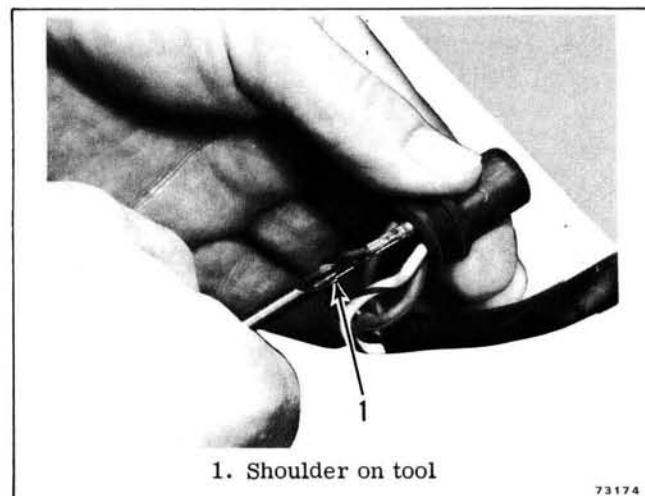

Figure 4-12. Inserting Terminal
c. Support the connector against a flat surface and push the terminal into the connector until the shoulder on the insert tool is at the end of the connector. See Figure 4-12.